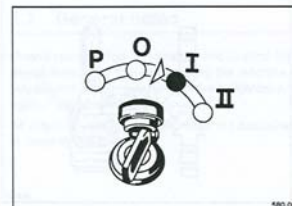

Fig. 24
- Turn the ignition key (Fig. 24) to position "I".